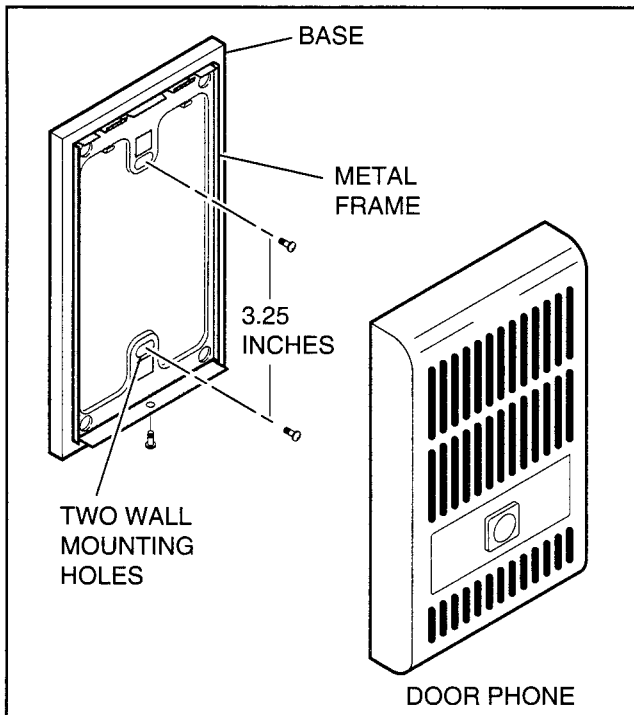

FIGURE 6-17
- 1) Remove the screw from the bottom of the cover. Detach the cover from the base and metal frame (Figure 6-17).
- 2) Position the metal frame and base to the mounting surface and secure with two one-inch panhead wood screws (Figure 6-17).
- 1) Remove the screw from the bottom of the MDFB cover. Detach the cover from the base and metal frame (Figure 6-17).